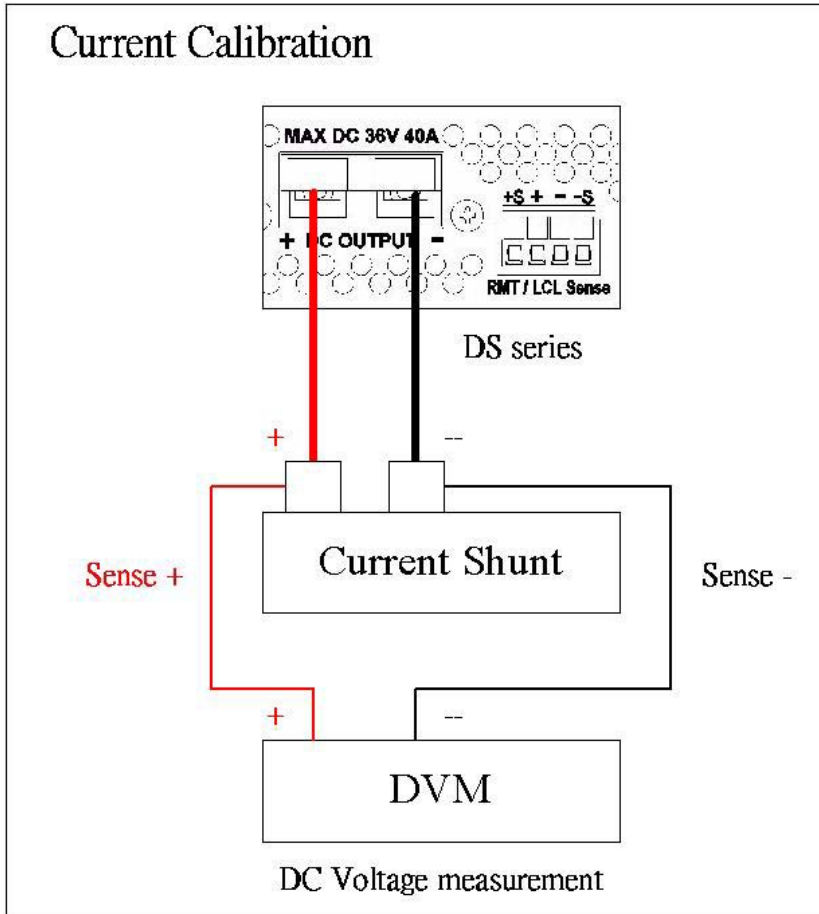

Figure 2
- A. Connect two output terminals of the power supply to two ends of the current shunt, and connect DVM to the sensor of current shunt to measure DC voltage as shown Figure 2. Press **3** to enter current calibration screen.